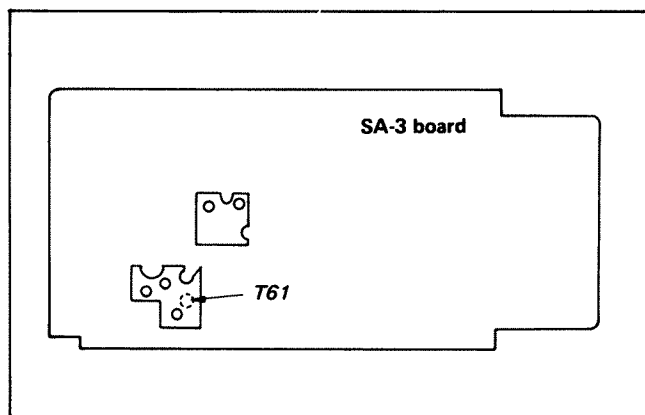

Fig. 4-44. Bias oscillator check
- (1) Set the input signal level to zero. (Set the audio oscillator output to zero and the attenuator to maximum.)
- (2) Insert the cassette and set up the RECORD mode.
- (3) Connect a microinductor of approx. 33 mH to the frequency counter and move the counter to T61 (oscillating transformer in the shield case). (See Fig. 4-44.)
- (4) Check that the oscillating frequency is 65 kHz $\pm$ 6.5 kHz.